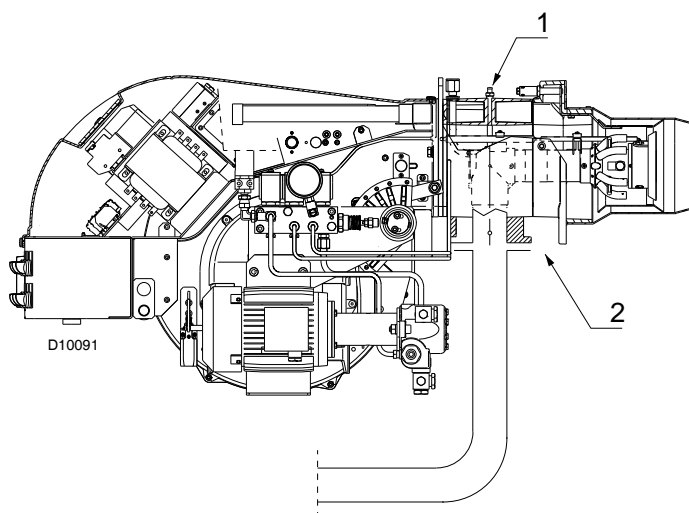

Fig. 27
Gas manifold pressure measured at test point 1)(Fig. 27), with:
- subtract the combustion chamber pressure from the gas pressure measured at test point 1)(Fig. 27).
- Gas pressure at test point 1)(Fig. 27) = 4.41" WC